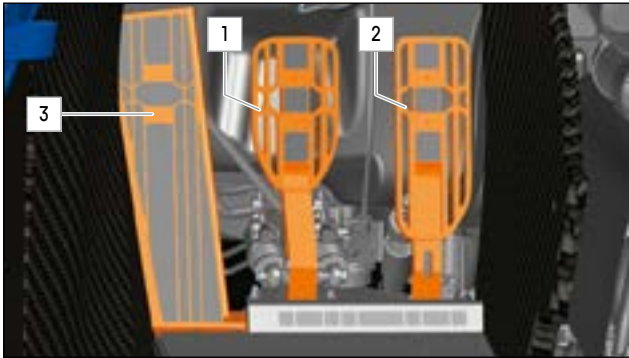

FIG.57 PEDALBOX ON THE DRIVER'S SIDE
- ▶ Press your foot on the footrest 3 (» Fig.57).
- ▶ Press the pedalbox release button 1 (» Fig.57) next to and outboard of the driver seat.